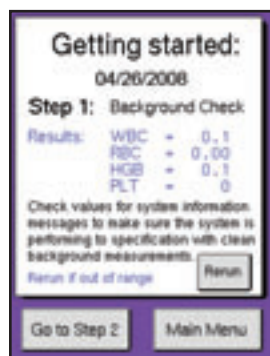
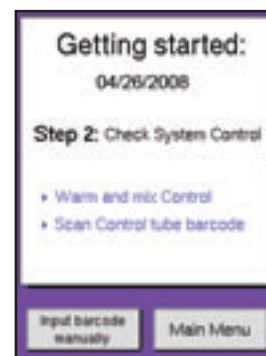

Figure 8.3
Figure 8.4
- 4 When complete, the background count results are displayed (Figure 8.3). If the results are acceptable, scan in the barcode on the control vial and follow directions on the display to begin the second step of the startup sequence (Figures 8.4 and 8.5).